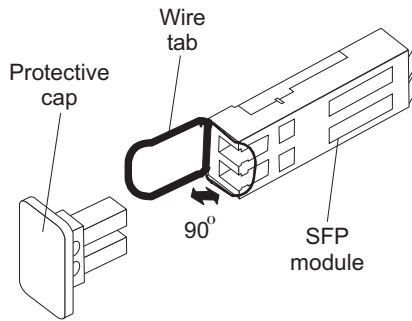

Figure 29. Unlocking the SFP module latch - plastic variety
- For SFP modules that contain plastic tabs, unlock the SFP module latch by pulling the plastic tab outward 10°, as shown in Figure 29 on page 52.